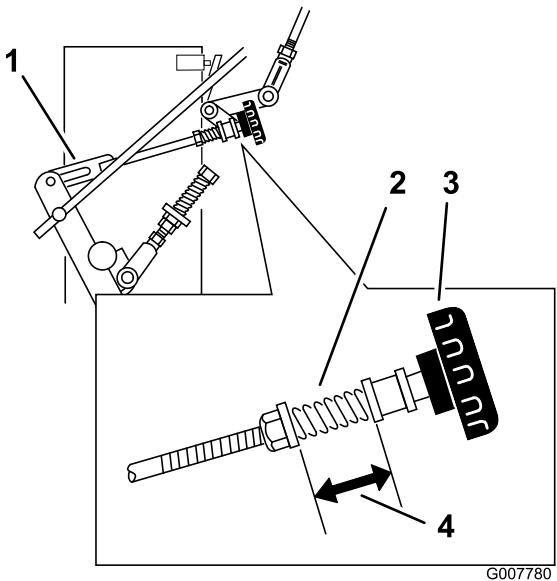

Figure 36
3. Adjust the right side linkage by turning the quick track knob counterclockwise until the tyre begins to rotate forward (Figure 36).
4. Turn the knob clockwise $1/4$ of a turn at a time. Then move the speed control forward and back to neutral. Repeat this until right wheel stops rotating forward (Figure 36).
6. The spring that keeps tension on the knob should normally not need adjustment. However if an adjustment is needed, adjust the length of spring to 1 inch (26 mm) between the washers (Figure 36).
7. Adjust spring length by turning nut at front of spring (Figure 36).